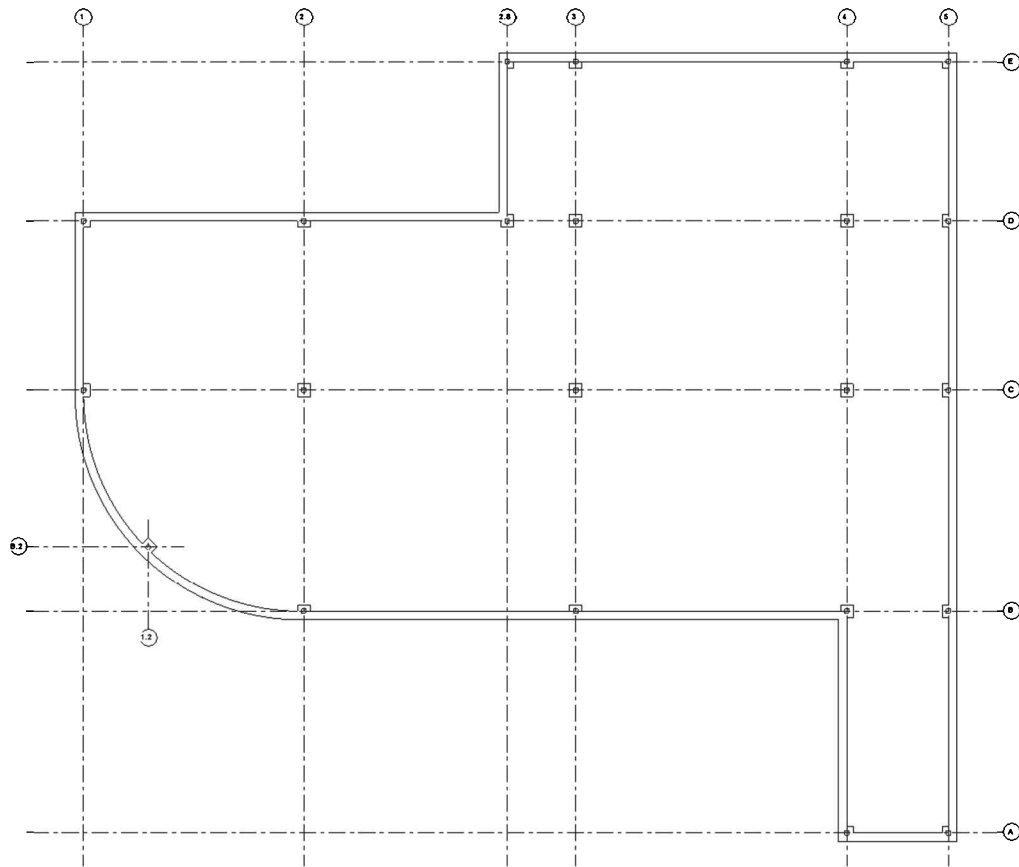

FIGURE 8-5.5 Level 1 slab and foundation plan; concrete columns added
22. Snap to the center point of each steel column, to place a concrete column (Figure 8-5.5).
Your plan should now look like the image below (Figure 8-5.5). Notice how the column and the foundation wall automatically joined. When placing the columns, you did not have an option to lower the top of the column down 8"; you will do that next. This will create an unrealistic condition at the exterior walls that will not be addressed in this tutorial; typically, a
23. Select and **Rotate** the concrete column (45 degrees) at the middle of the curved foundation wall (Figure 8-5.5).